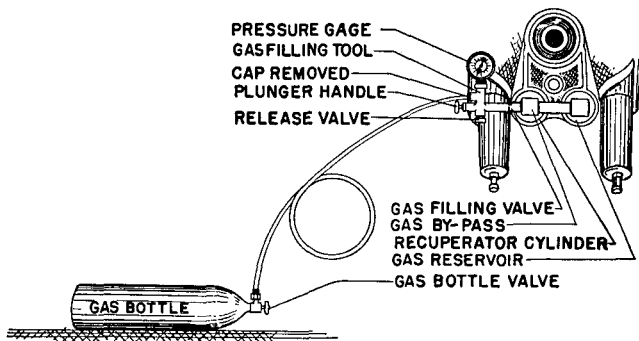

FIGURE 11.—Method of replenishing gas in recuperator cylinder.
■ 56. TO CHARGE RECUPERATOR AND EQUILIBRATORS WITH GAS.—Although this operation should be performed by ordnance personnel, it may be found necessary for the using service personnel to do so. The procedure is as follows: Remove the closing plug (16) (fig. 10) over the gas filling valve in the gas bypass at the front of the recuperator (or the plug over the valve at the lower end of the equilibrators) and attach the gas filling device with gage attached. Remove the cap (fig. 11) below the gage and attach the filling tube which is also connected to a gas bottle. Close the release valve and turn the handle of the plunger until the lifting of the closing valve from its seat can be felt. Then open the gas bottle valve a small amount, allowing the gas to flow into the recuperator (or equilibrators) very slowly. When charging the recuperator, close